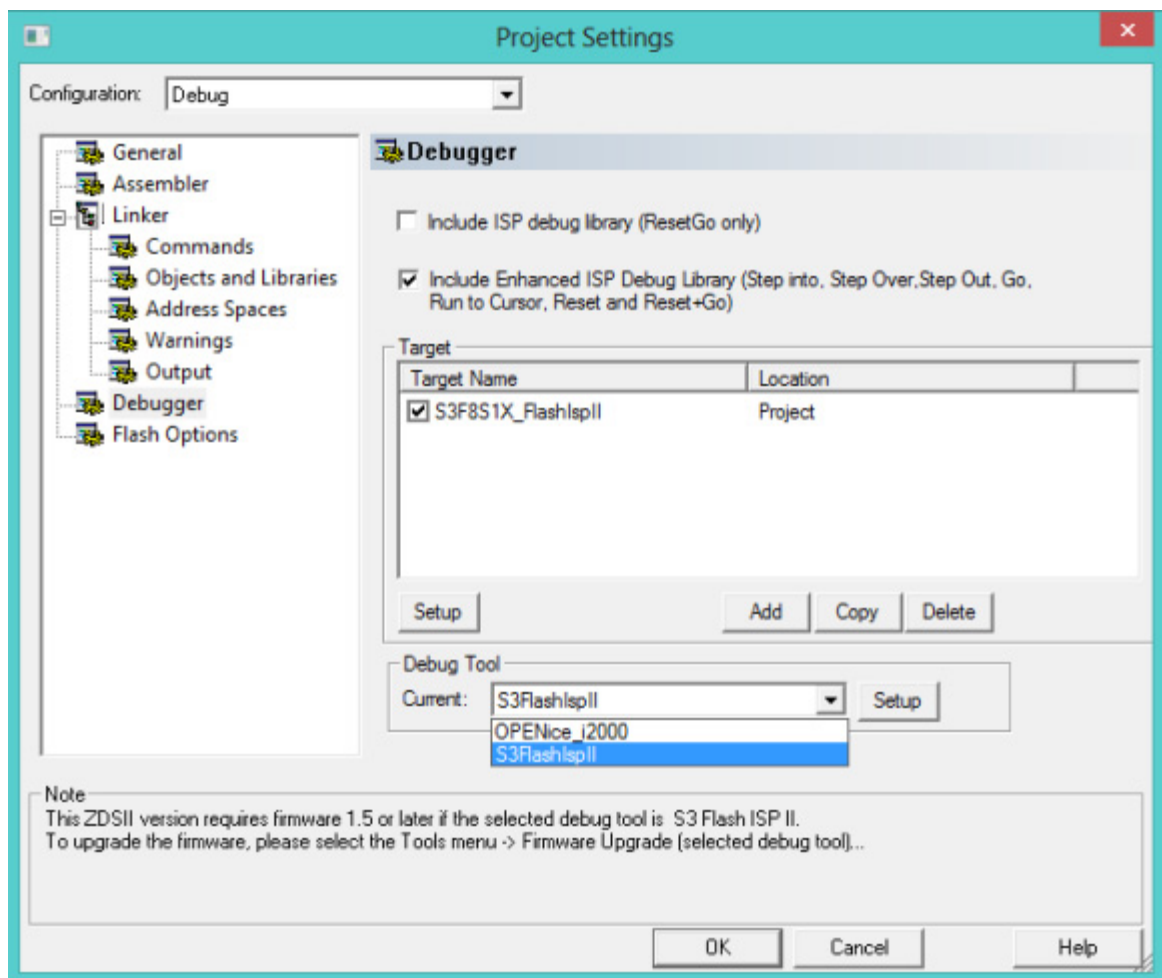

Figure 9. Select the Target and Debug Tool
7. On the Debugger page, select **S3F8S1X_FlashIspII** from the Target list, then select **S3FlashIspII** from the **Debug Tool** drop-down menu, as indicated in Figure 9.